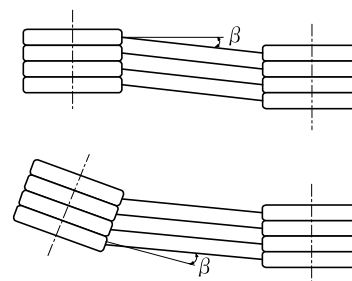

Fig. 10
- Eccentricity of parallelism between two pulleys must be less than 0.5° (Fig. 10).